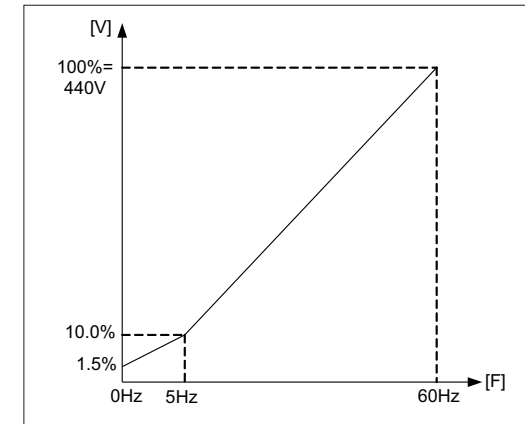

Figure 7.4-2 V/F pattern user setting example
►Refer to Figure 7.4-2 if you want to adjust the output rated voltage (V) or the rated frequency (F) of your own accord